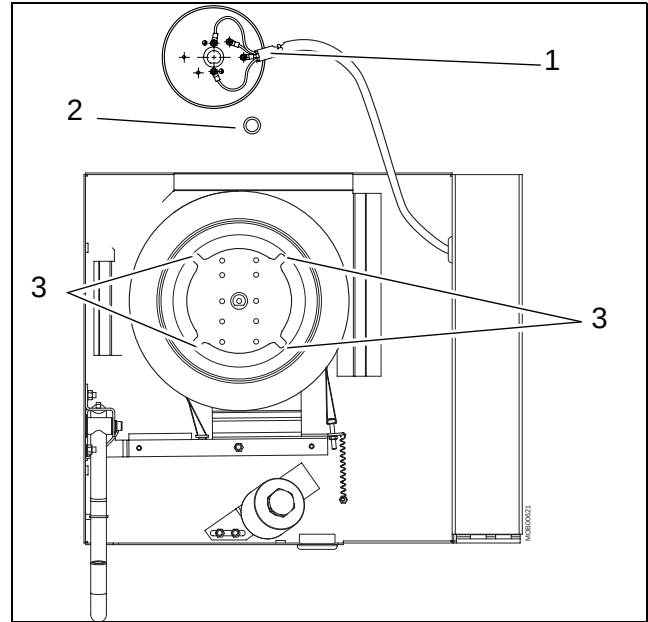

Fig. 5
- Disconnect the cable from upper plate (pos. 1 / Fig. 5).
- Remove the distance ring (pos. 2 / Fig. 5) from the axle.